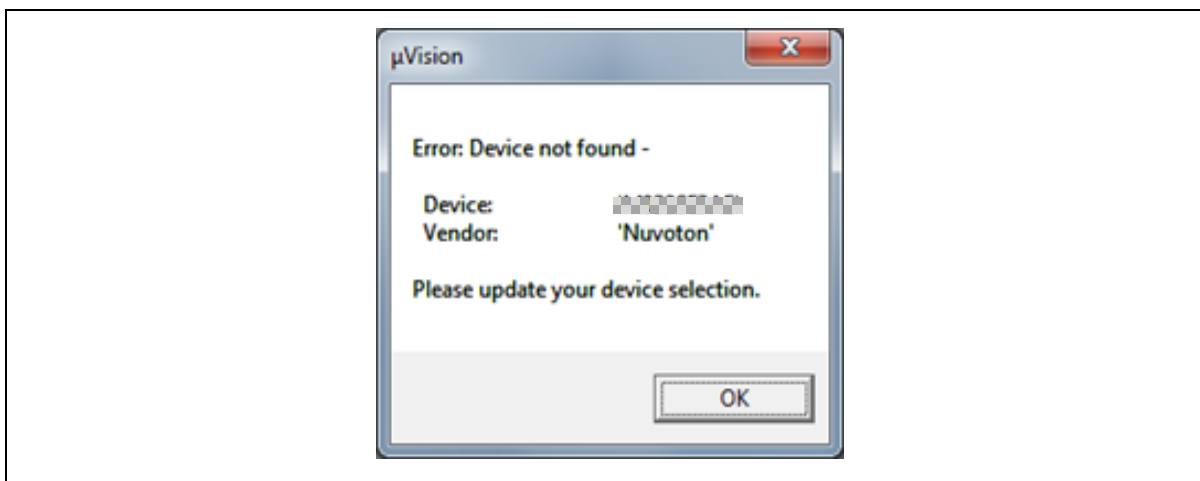
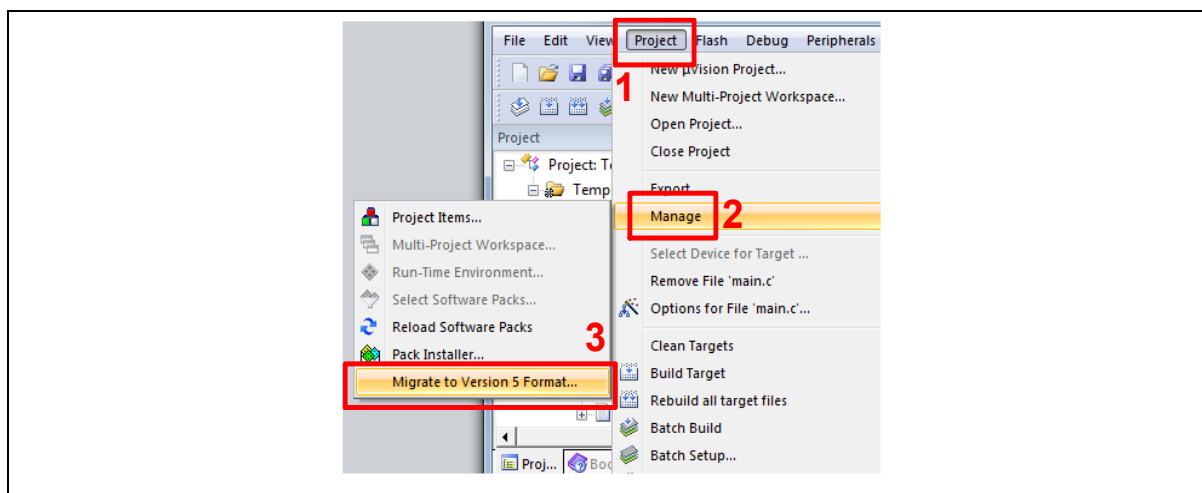

Figure 4-8 Warning Message of “Device not found”
Figure 4-9 Project File Migrate to Version 5 Format
**Note:** If Figure 4-8 warning message jumps out, please migrate to version 5 format as shown in Figure 4-9. The “.uvproj” filename extension will change to “.uvprojx”.